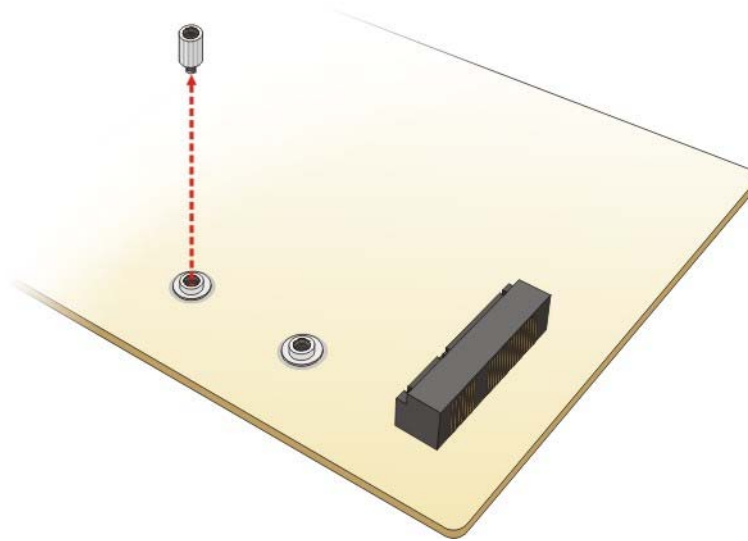

Figure 4-11: Removing the Standoff
Step 3: **Remove the standoff.** Unscrew and remove the standoff secured on the motherboard as shown in **Figure 4-11**.